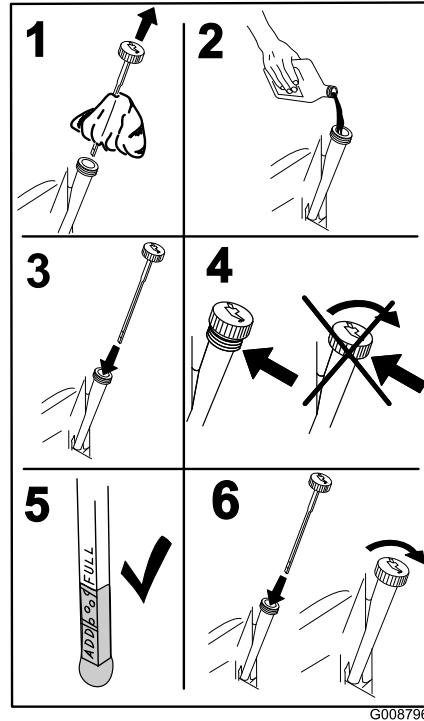

Figure 31
4. Slowly pour approximately 80% of the specified oil into the filler tube and slowly add the additional oil to bring it to the **Full** mark (Figure 31).